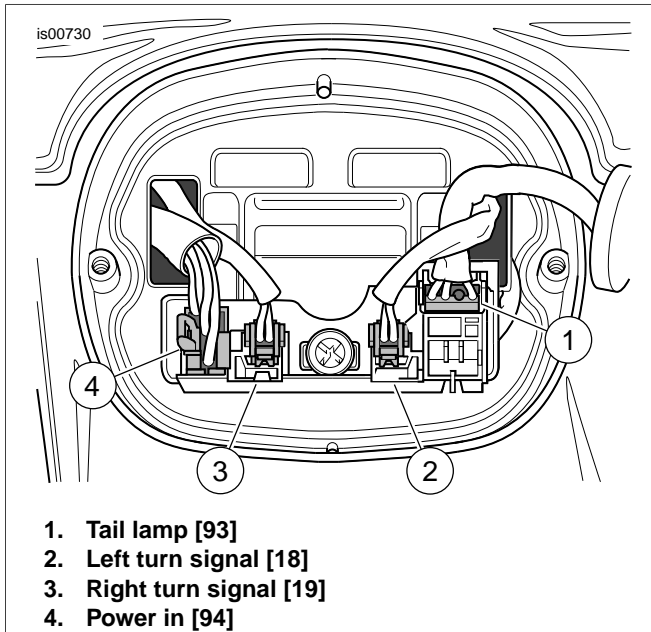

Figure 1. Rear lamp connections
5. Snap retainer boss on rear fender extension (1) into key hole slots on rear fender.
6. See Figure 1. Install stock circuit board (rotated 180° from its original position) to the tail lamp/license plate bracket, with the saved circuit board screw. Tighten screw to 40-48 in-lbs (4.5-5.4 Nm).
1. See Figure 1. Install the connectors into the circuit board.